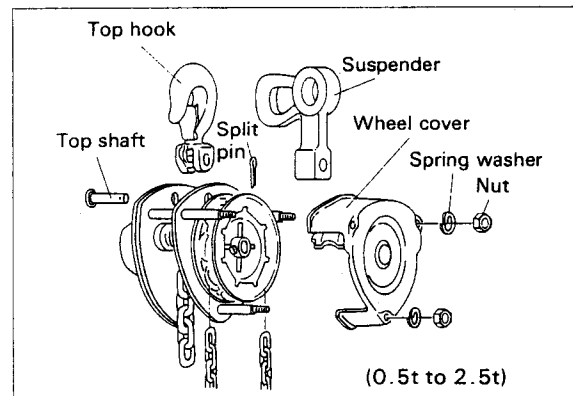

Fig. 1
1) For 0.5 to 2.5 ton capacity (Refer to Fig. 1)